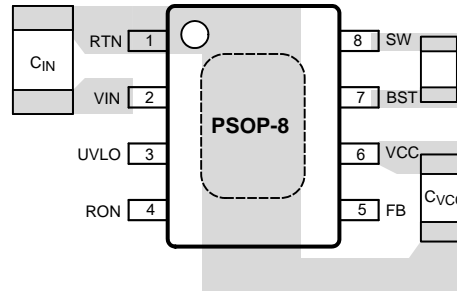

Figure 17. Placement of Bypass Capacitors
1. C_{IN} : The loop consisting of input capacitor (C_{IN}), V_{IN} pin, and RTN pin carries switching currents. Therefore, the input capacitor should be placed close to the IC, directly across V_{IN} and RTN pins and the connections to these two pins should be direct to minimize the loop area. In general it is not possible to accommodate all of input capacitance near the IC. A good practice is to use a 0.1µF or 0.47µF capacitor directly across the V_{IN} and RTN pins close to the IC, and the remaining bulk capacitor as close as possible (Refer to Figure 17 Placement of Bypass Capacitors).
2. C_{VCC} and C_{BST} : The V_{CC} and bootstrap (BST) bypass capacitors supply switching currents to the high and low side gate drivers. These two capacitors should also be placed as close to the IC as possible, and the connecting trace length and loop area should be minimized (See Figure 17 Placement of Bypass